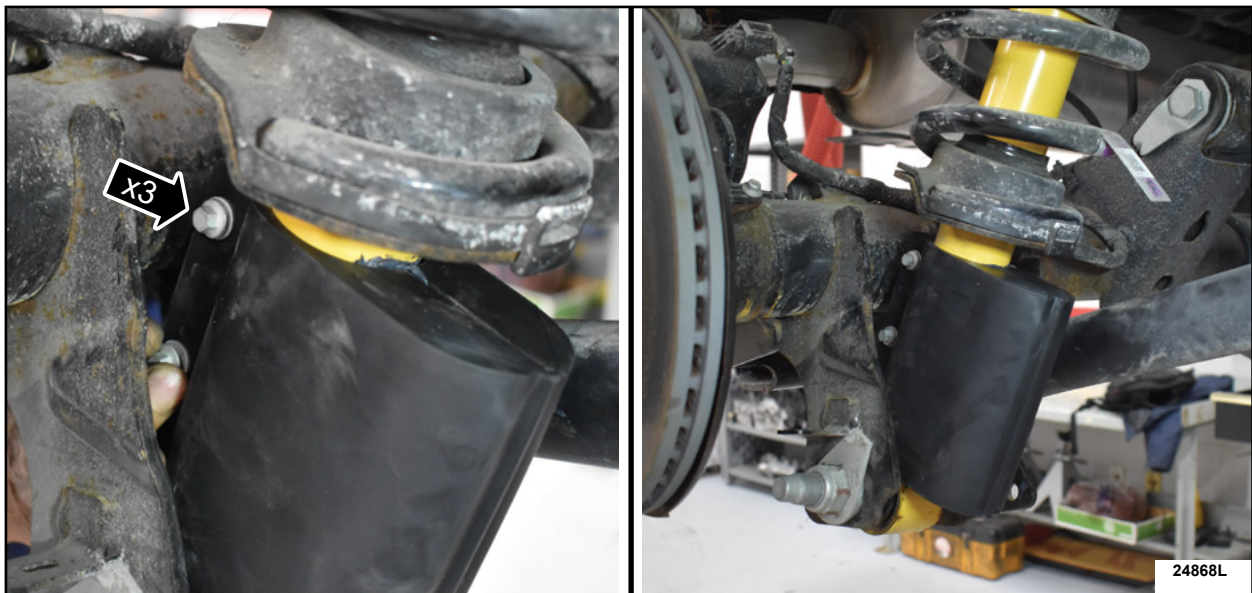

FIGURE 10
10. On both sides, using the bolts and nuts in the service kit, secure the shock absorber reservoir retention clamp/shield as shown in Figure 10.